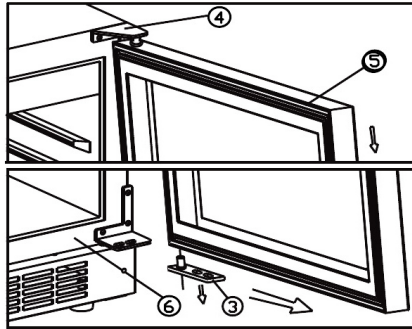

fig. 5.2
- Dismount the door by pulling it forwards and free from the top hinge. See fig. 5.2